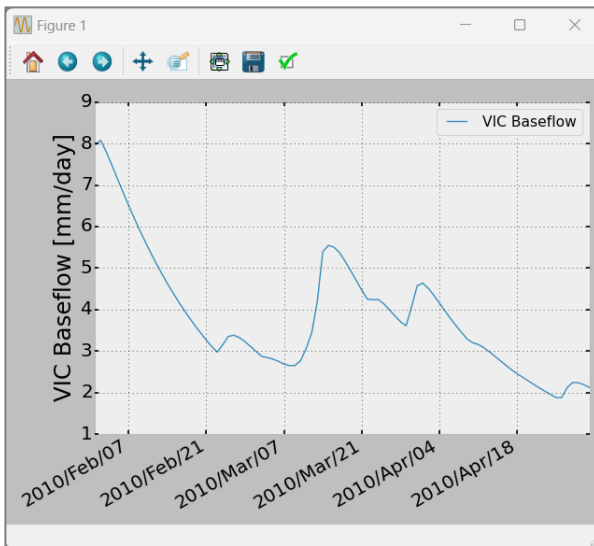
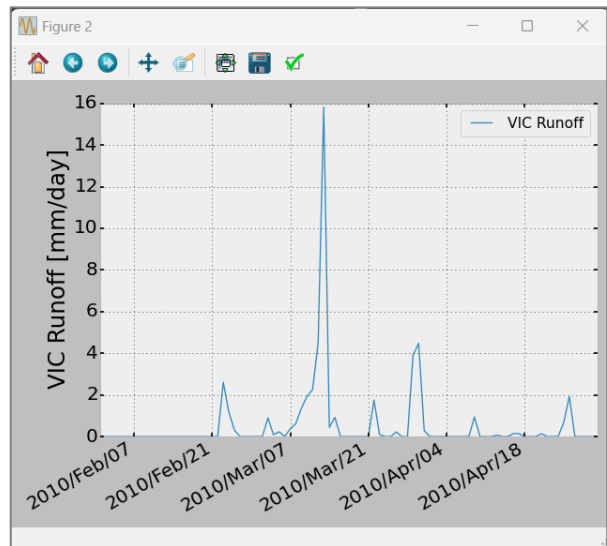

Figure 32. Resulting subsurface baseflow from the VIC simulation of the French Creek in PA.
Figure 33. Resulting surface runoff from the VIC simulation of the French Creek in PA.
- After executing this workflow, the two charts that are shown in Figure 32 and Figure 33 will be prompted.